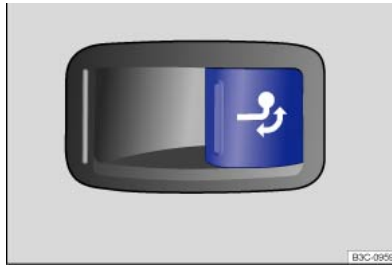

Fig. 192 On the right of the luggage compartment: button for releasing the ball coupling.
- Briefly pull the button ⇒ *Fig. 192* on the right-hand side of the luggage compartment. The ball head is released electrically and folds out automatically. The indicator lamp in the button flashes.
- Briefly pull the button ⇒ *Fig. 192* on the right-hand side of the luggage compartment. The ball head is electrically unlocked.
- If the indicator lamp in the button ⇒ *Fig. 192* is *lit up permanently* when the boot lid is open, the ball head is correctly engaged in the extended or retracted position.
- Never press the button ⇒ *Fig. 192* if a trailer is attached or if a luggage rack or other accessories are fitted to the ball head.